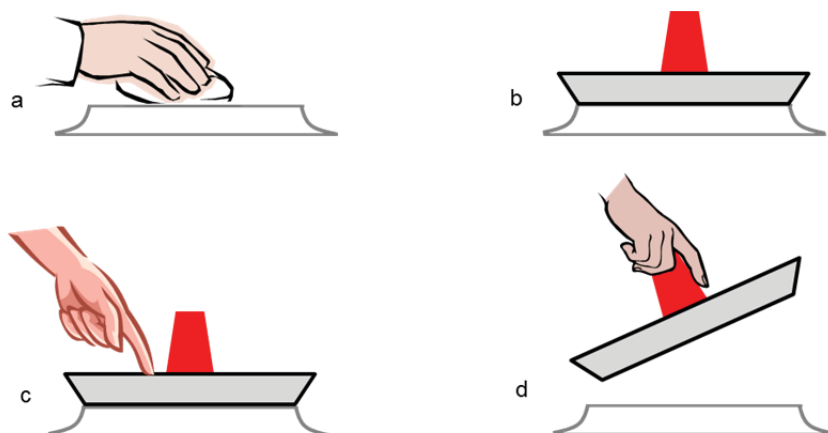

Fig 5
4. For each step, add + and – symbols to the cartoons in Fig. 5 to illustrate the distribution of charges on the plates. Discuss these distributions with your lab partners and finally with your TA